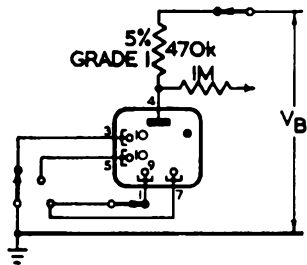

Fig. 3
- The $K_{1.9}$ 1st guide and 2nd guide electrodes will be successively earthed through a suitable make before break type switch to cause 30 gaps to conduct in turn. The running voltage across each gap shall be within the specified limits. For this test the K_0 and $K_{1.9}$ electrode will be commoned. The test circuit to Fig. 3 is applicable. The measurement of the running volts is to be made between 0.1 and 2.0 seconds after the contacts of the make before break type switch have broken.